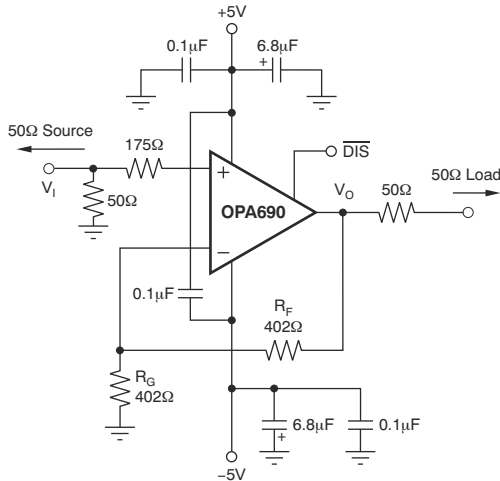
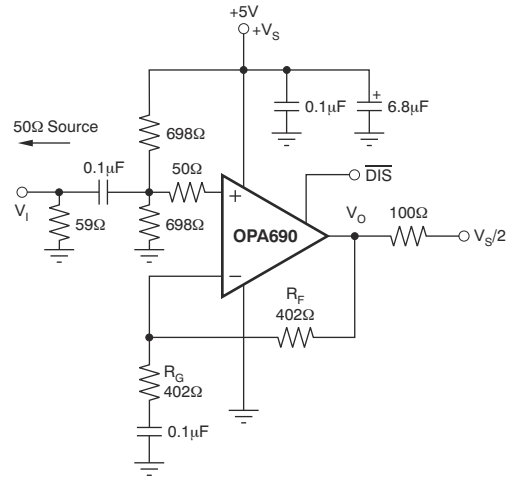

图 7-1. DC-Coupled, $G = 2$ V/V, Bipolar-Supply Specification and Test Circuit
图 7-2. AC-Coupled, $G = 2$ V/V, Single-Supply Specification and Test Circuit
at $T_A = 25^\circ\text{C}$, $G = 2$, $R_F = 402\ \Omega$, and $R_L = 100\ \Omega$ (unless otherwise noted); see 图 7-1 for ac performance only
at $T_A = 25^\circ C$, $G = 2$, $R_F = 402\ \Omega$, and $R_L = 100\ \Omega$ (unless otherwise noted); see 图 7-1 for ac performance only
at $T_A = 25^\circ C$, $G = 2$, $R_F = 402\ \Omega$, and $R_L = 100\ \Omega$ (unless otherwise noted); see 图 7-2 for ac performance only
图 7-1 shows the dc-coupled, gain of 2 V/V, dual power-supply circuit configuration used as the basis of the 节 6.11. For test purposes, the input impedance is set to 50 Ω with a resistor to ground and the output impedance is set to 50 Ω with a series output resistor. Voltage swings reported in the specifications are taken directly at the input and output pins, while output powers (dBm) are at the matched 50- Ω load. For the circuit of 图 7-1, the total effective load is 100 Ω || 804 Ω . The disable control line is typically left open to maintain normal amplifier operation. An additional resistor (175 Ω) is included in series with the noninverting input. Combined with the 25- Ω DC source resistance looking back towards the signal generator, this gives an input bias current canceling resistance that matches the 200- Ω source resistance seen at the inverting input (see 节 8.1.8). In addition to the usual power-supply decoupling capacitors to ground, a 0.1- μ F capacitor is included between the two power-supply pins. In practical printed-circuit board (PCB) layouts, this optional-added capacitor typically improves the 2nd-harmonic distortion performance.
图 7-2 shows the AC-coupled, gain of 2, single-supply circuit configuration which is the basis of the 5 V and 节 6.12. Although not a rail-to-rail design, the OPA690 requires minimal input and output voltage headroom compared to other very wideband voltage-feedback op amps. The device delivers a 3-V_{PP} output swing on a single 5-V supply with > 120-MHz bandwidth. The key requirement of broadband single-supply operation is to maintain input and output signal swings within the useable voltage ranges at both the input and the output. The
circuit of 图 7-2 establishes an input midpoint bias using a simple resistive divider from the 5-V supply (two 698- Ω resistors). The input signal is then ac-coupled into the midpoint voltage bias. The input voltage can swing to within 1.5 V of either supply pin, giving a 2- V_{PP} input signal range centered between the supply pins. The input impedance matching resistor (59 Ω) used for testing is adjusted to give a 50- Ω input load when the parallel combination of the biasing divider network is included.
Voltage-feedback op amps exhibit decreasing closed-loop bandwidth as the signal gain is increased. In theory, this relationship is described by the gain bandwidth product (GBP) shown in 节 6.5 and 节 6.7. Ideally, dividing GBP by the noninverting signal gain (also called the noise gain, or NG) predicts the closed-loop bandwidth. In practice, this relationship only holds true when the phase margin approaches 90°, as in high-gain configurations. At low gains (increased feedback factors), most amplifiers exhibit a more complex response with lower phase margin. The OPA690 is compensated to give a slightly peaked response in a noninverting gain of 2 V/V (see 图 7-1). This compensation results in a typical gain of 2 bandwidth of 220 MHz, far exceeding that predicted by dividing the 300 MHz GBP by 2. Increasing the gain causes the phase margin to approach 90° and the bandwidth to more closely approach the predicted value of (GBP/NG). At a gain of 10, the 30-MHz bandwidth shown in the ± 5 -V *Electrical Characteristics* agrees with that predicted using the simple formula and the typical GBP of 300 MHz.
The frequency response in a gain of 2 V/V can be modified to achieve exceptional flatness by simply increasing the noise gain to 2.5. One method, without affecting the two signal gain, is to add an 804- Ω resistor across the two inputs in the circuit of 图 7-1. A similar technique can be used to reduce peaking in unity-gain (voltage-follower) applications. For example, by using a 402- Ω feedback resistor along with a 402- Ω resistor across the two op amp inputs, the voltage follower response is similar to the gain of 2 response of 图 7-2. Reduce the value of the resistor across the op amp inputs to further limit the frequency response due to increased noise gain.
The OPA690 is a general-purpose, wideband voltage-feedback op amp; therefore, all of the familiar op amp application circuits are available to the designer. Inverting operation is one of the more common requirements and offers several performance benefits. 图 8-1 shows a typical inverting configuration where the I/O impedances and signal gain from 图 7-1 are retained in an inverting circuit configuration.
The second major consideration, touched on in the previous paragraph, is that the signal source impedance becomes part of the noise gain equation and influences the bandwidth. For the example in 图 8-1, the R_M value combines in parallel with the external 50- Ω source impedance, yielding an effective driving impedance of 50 Ω || 67 Ω = 28.6 Ω . This impedance is added in series with R_G for calculating the noise gain (NG). The resultant NG is 2.8 for 图 8-1, as opposed to only 2 if R_M can be eliminated as discussed previously. Therefore, the bandwidth is slightly less for the circuit of 图 8-1 than for the gain of 2 circuit of 图 7-1.
A good practice is to target the parallel combination of R_F and R_G (see 图 7-1) to be less than approximately 300 Ω . The combined impedance $R_F \parallel R_G$ interacts with the inverting input capacitance, placing an additional pole in the feedback network, and thus, a zero in the forward response. Assuming a 2-pF total parasitic on the inverting node, holding $R_F \parallel R_G < 300 \Omega$ keeps this pole greater than 250 MHz. Alone, this constraint implies that the feedback resistor R_F can increase to several k Ω at high gains. This result is acceptable as long as the pole formed by R_F and any parasitic capacitance appearing in parallel is kept out of the frequency range of interest.
The OPA690 provides good distortion performance into a 100- Ω load on ± 5 -V supplies. Relative to alternative solutions, this device provides exceptional performance into lighter loads, while operating on a single 5-V supply. Increasing the load impedance improves distortion directly. Remember that the total load includes the feedback network; in the noninverting configuration (see 图 7-1), this total load is sum of $R_F + R_G$, while in the inverting configuration the total load is just R_F . Also, providing an additional supply-decoupling capacitor (0.1 μ F) between the supply pins (for bipolar operation) improves the 2nd-order distortion.
Evaluating these two equations for the OPA690 circuit and component values (see 图 7-1) gives a total output spot noise voltage of 12.3 nV/√Hz and a total equivalent input spot noise voltage of 6.1 nV/√Hz. This is including the noise added by the bias current cancellation resistor (175 Ω) on the noninverting input. This total input-referred spot noise voltage is only slightly higher than the 5.5-nV/√Hz specification for the op amp voltage noise alone. This is the case as long as the impedances appearing at each op amp input are limited to the previously recommend maximum value of 300 Ω. Keeping both $(R_F \parallel R_G)$ and the noninverting input source impedance less than 300 Ω satisfies both noise and frequency response flatness considerations. Because the resistor-induced noise is relatively negligible, additional capacitive decoupling across the bias current cancellation resistor (R_B) for the inverting op amp configuration of 图 8-1 is not required.
The balanced input stage of a wideband voltage-feedback op amp allows good output dc accuracy in a wide variety of applications. Although the high-speed input stage does require relatively high input bias current (typically $\pm 8 \mu\text{A}$ at each input terminal), the close matching can be used to reduce the output dc error caused by this current. The total output offset voltage can be considerably reduced by matching the dc source resistances appearing at the two inputs. This matching reduces the output dc error due to the input bias currents to the offset current times the feedback resistor. Evaluating the configuration of 图 7-1, and using worst-case 25°C input offset voltage and current specifications, gives a worst-case output offset voltage equal to:
As a worst-case example, compute the maximum T_J using an OPA690-DBV (6-pin SOT-23 package) in the circuit of 图 7-1 operating at the maximum specified ambient temperature of 85°C and driving a grounded 20-Ω load.